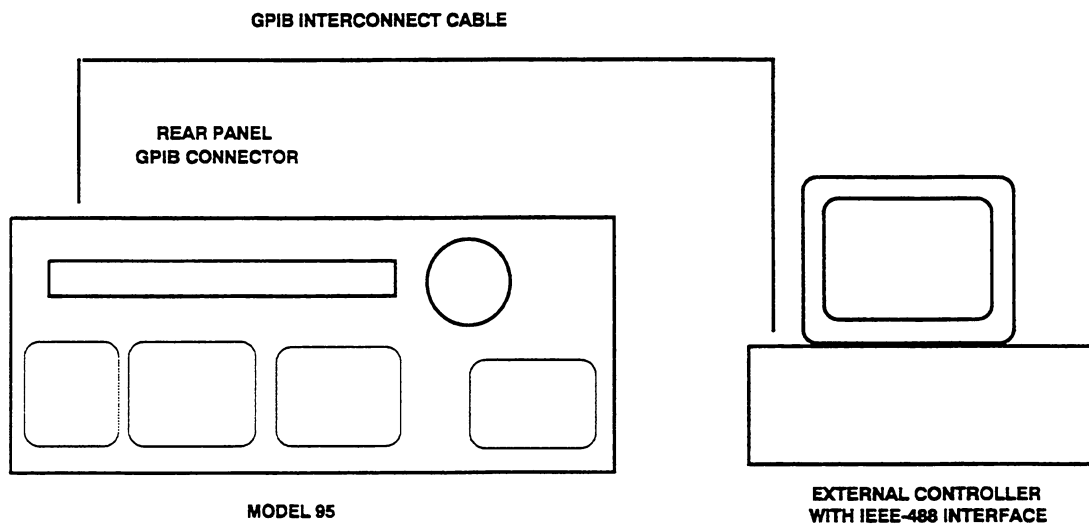

Figure 3-5. GPIB Interconnect Wiring
1. Connect a GPIB interconnect cable between the Model 95 and the controller as shown in figure 3-5. The Model 95's GPIB connector (E) is located on the rear panel of the instrument.